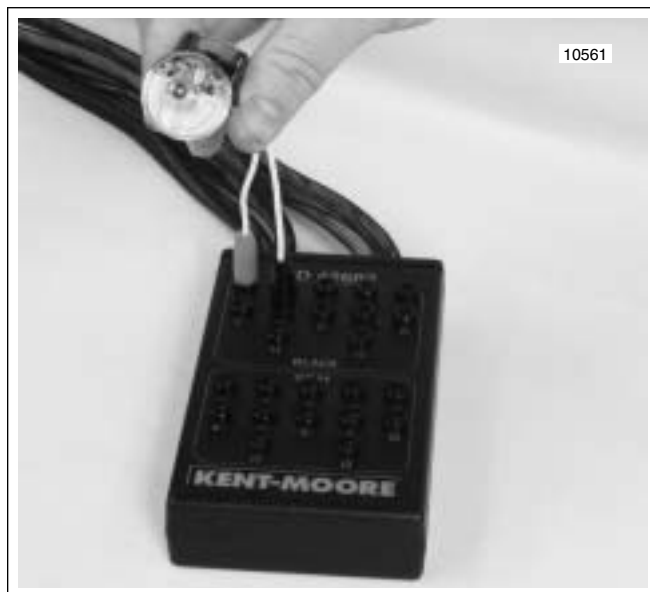

Figure 4-31. Ignition Coil Circuit Test
2. See Figure 4-31. Plug IGNITION COIL CIRCUIT TEST ADAPTER (Part No. HD-44687) and FUEL INJECTOR TEST LAMP (Part No. HD-34730-2C) into Breakout Box. Note that cranking the engine with test lamp in place of the ignition coil can sometimes cause a DTC P1351, P1352, P1354 or P1355. This condition is normal and does not by itself indicate a malfunction. Codes must be cleared if this condition occurs.